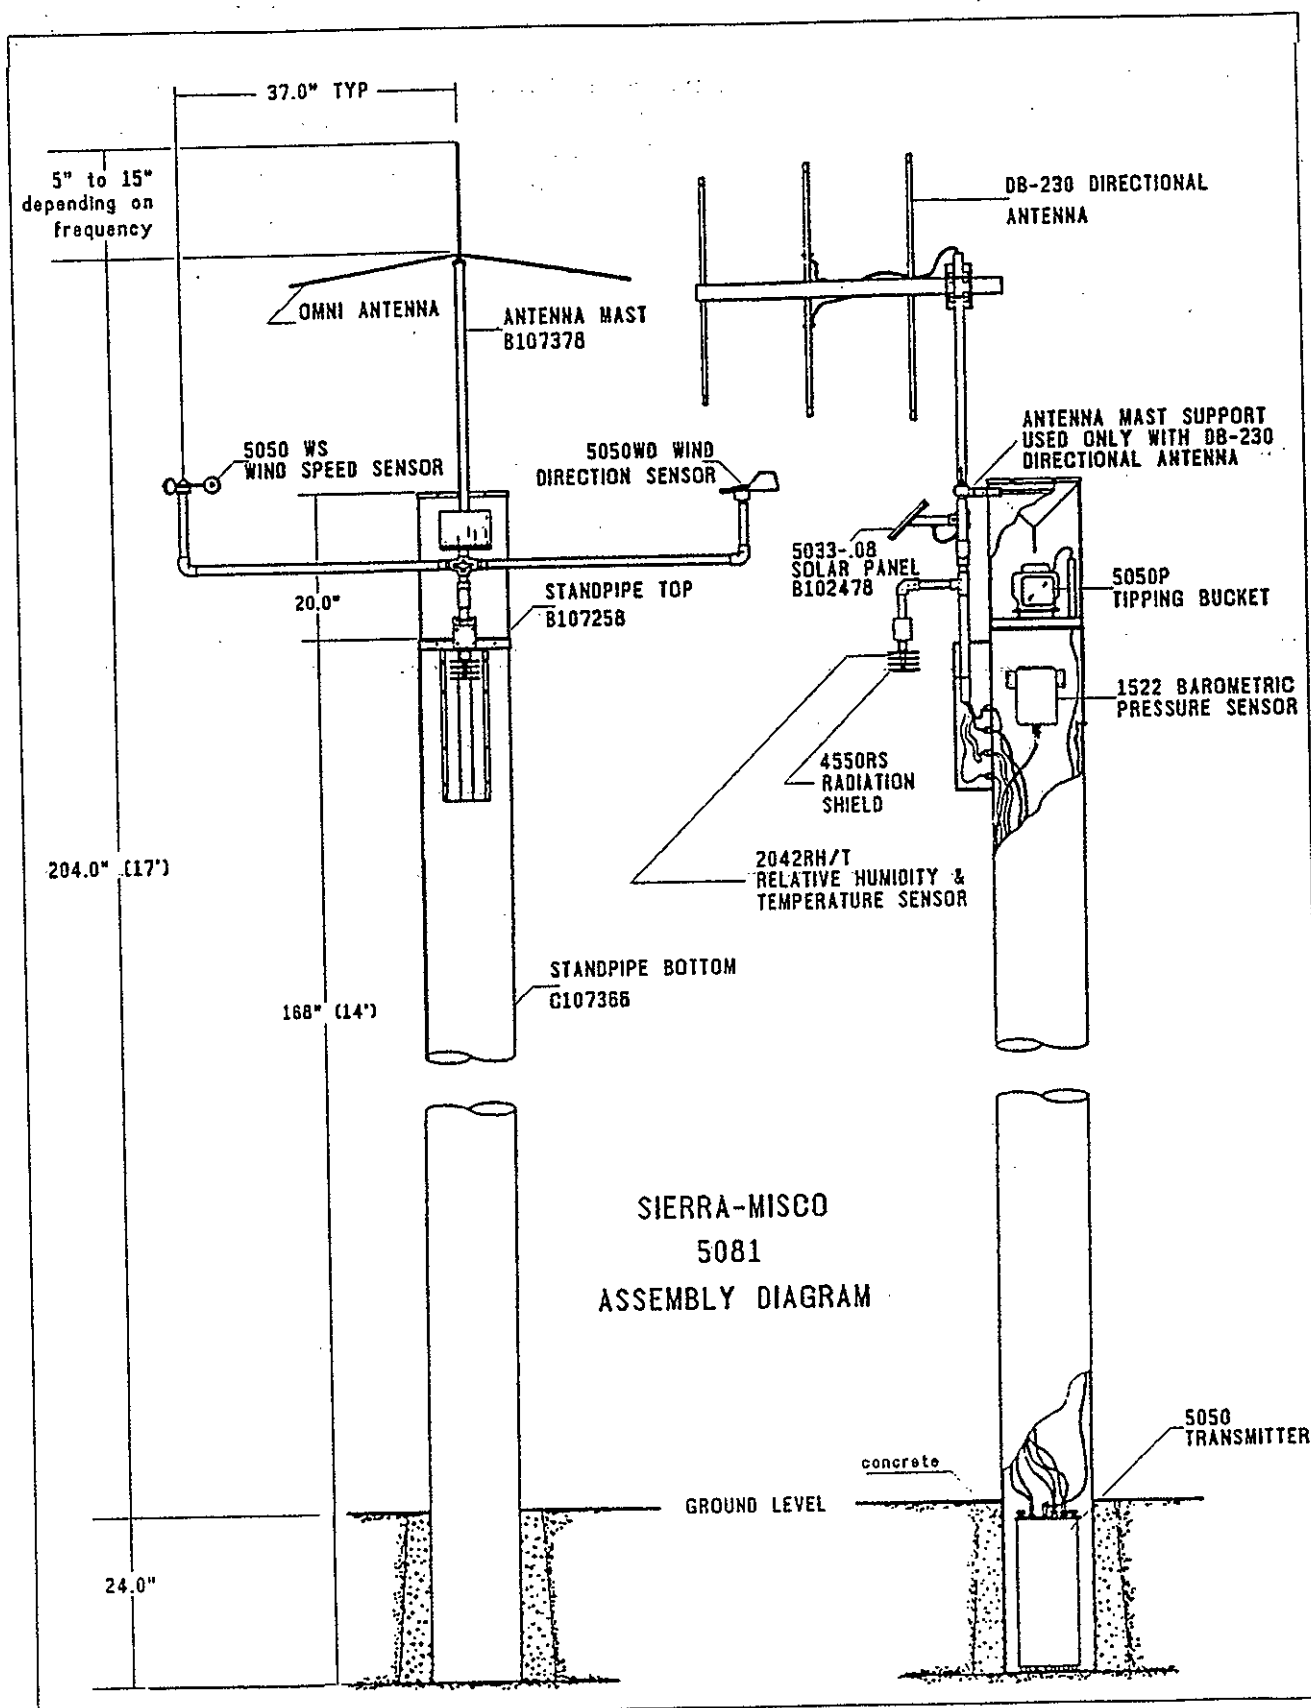

Figure 1. Diagram of Sierra-Misco, Inc., Model 5081 Real Time Event Reporting Weather Station.
- Diagram and specifications for a typical automated recording/reporting weather station (see Figure 1 and Table 1).